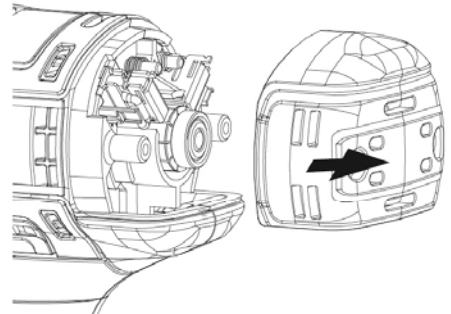

Fig.2
- (2). Remove rear cover .( See Fig.2)